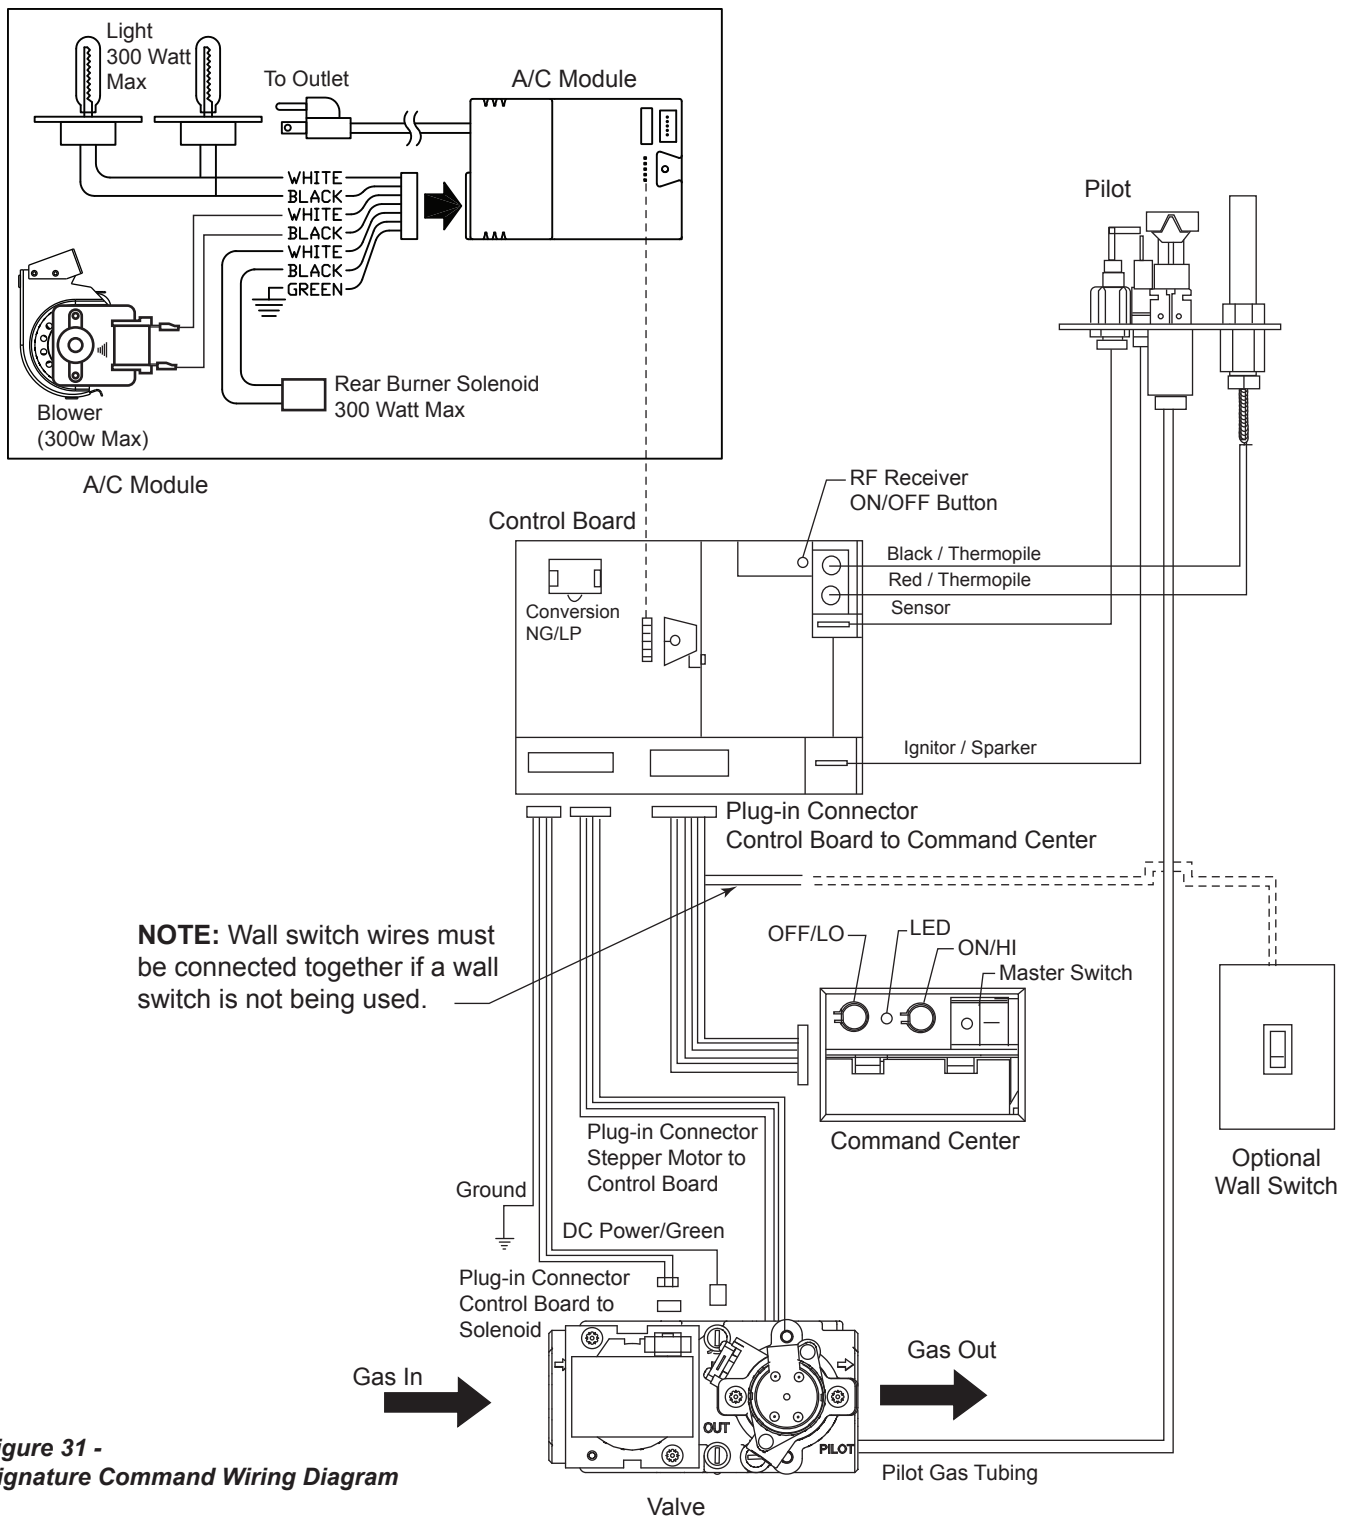

Figure 31 -
The wall switch wire connection is located off the 2 ft. wire harness from the control box to the command center. *Figure 31*. The connection is labeled "Wall Switch". Unplug the male and female connectors and connect the two (2) low voltage wires provided. Run wire to desired location on wall. Up to 50 ft. of 18 ga. wire may be used if necessary. Attach wires to wall switch. Mount the wall switch in to junction box and screw on cover.